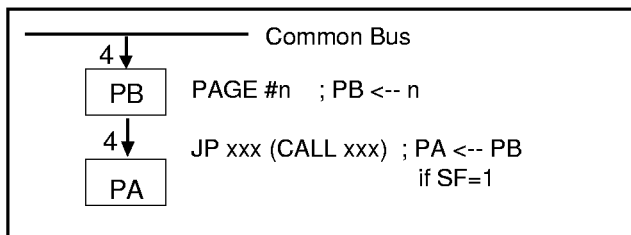

Figure 1-6. PA, PB Operations
A page select instruction (PAGE #n) loads the value "n" into the PB. When JP or CALL instruction is executed, and if the Status Flag (SF) is set to 1, the contents of PB are loaded into PA. If SF is "0", however, the JP or CALL is executed like NOP instruction and SF is set to "1". The contents of PB don't be loaded. Figure 1-6 illustrates this concept.